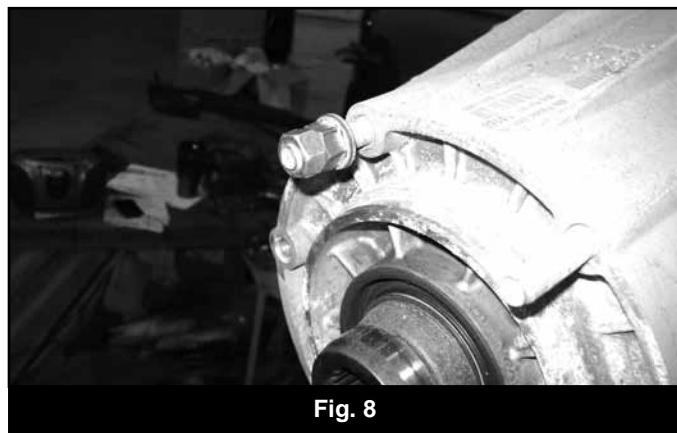

Fig. 8
15. Remove the studs from the transfer case. Thread on up to 3 nuts in order for there to be enough resistance to unthread the studs. (Fig 8)